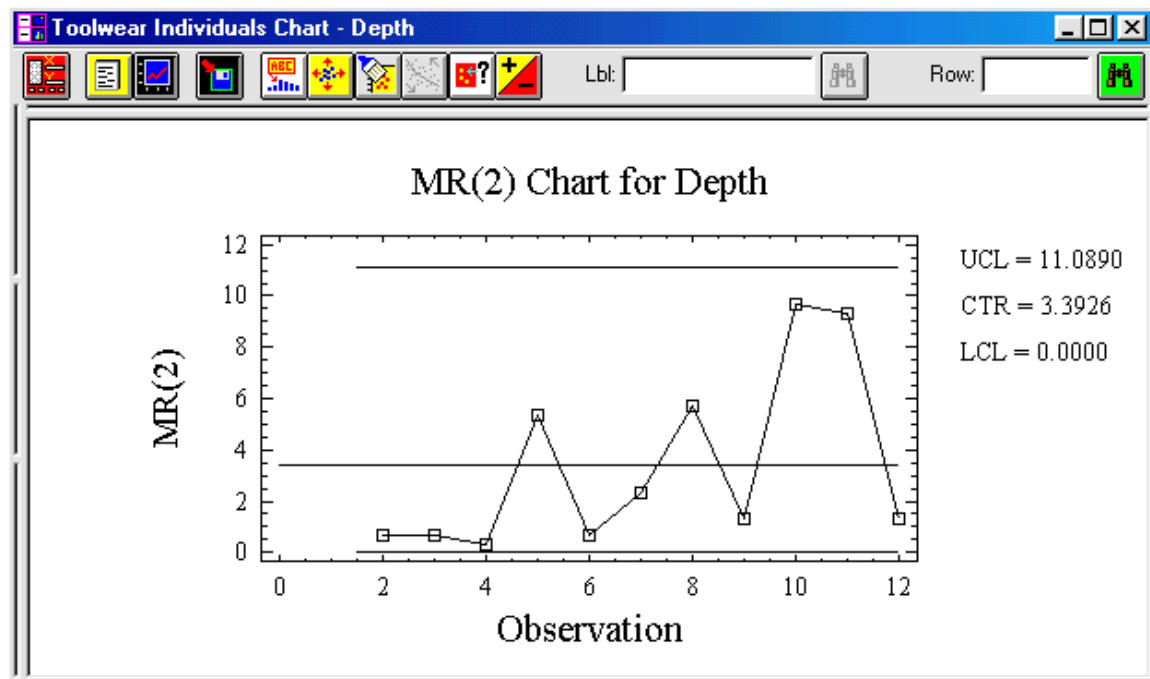

Figure 7-46. MR(2) Chart
The MR(2) Chart option creates a plot of the moving ranges for each of the observations and shows the points that are beyond the control limits (see Figure 7-46).